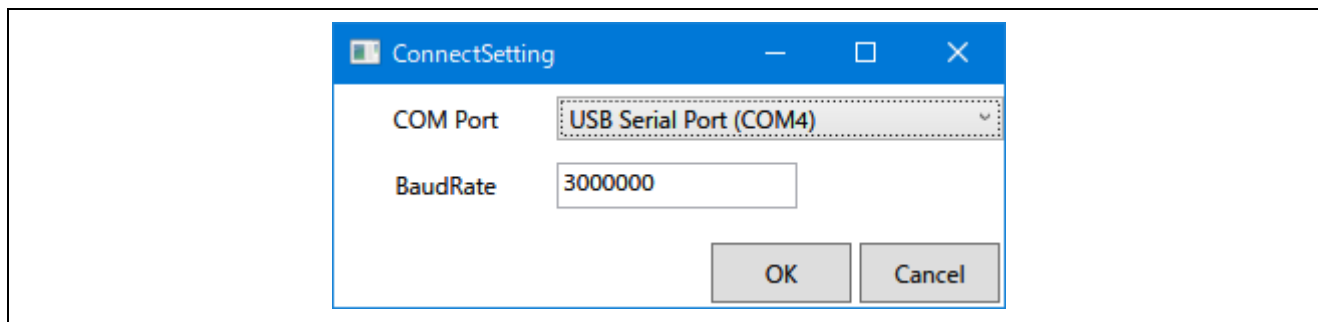

Figure 2-3 ConnectSetting Dialog Box
3. Select "Setting" > "Configure" from the menu bar to display the "ConnectSetting" dialog box (Figure 2-3).